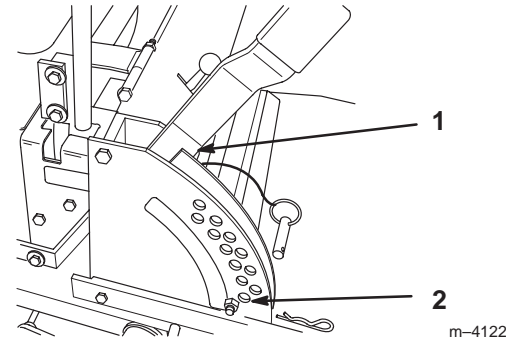
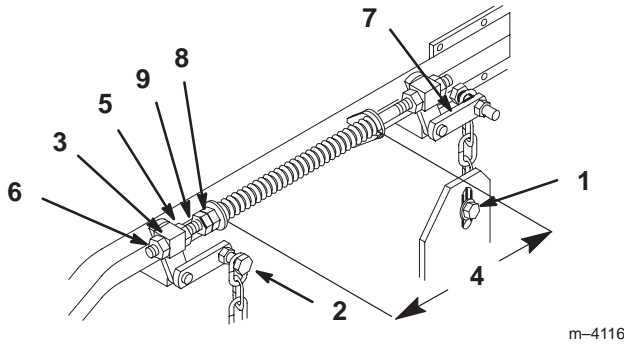

Figure 50
Figure 51
4. Raise the deck to the transport position (Fig. 50). Take force off of the two large deck lift springs by loosening the jam nut and front spring nut, in front of each spring, as far as possible (Fig. 51).
5. Place 2 thick blocks (1-1/4 in. [35 mm]) under the rear left and right lower edge of the mower. Place 1 block (1-3/8 in. [44 mm]) under the front center lower edge of the mower, not under the anti-scalp roller brackets. Lower the mower to the 1-1/2 in. (38 mm) height-of-cut position (Fig. 50).
6. Loosen the bottom chain bolt in the slot at the rear of the deck. Repeat for the opposite side (Fig. 51).
7. Loosen the front and rear locking nut on either side of the front swivel. Loosen until the front chains are loose and the deck is supported by blocks. Repeat for the opposite side. (Fig. 51).
8. When the hardware is loosened, the remaining tension in the large support springs will tend to rotate the deck lift handle up, out of the 1-1/2 in. (38 mm) position. Press down on the rear deck support arm to firmly return the deck lift handle to the 1-1/2 in. (38 mm) position (Fig. 51).
9. While continuing to press down on the rear deck support arm, take the slack out of the rear chain and tighten the hardware at the bottom (Fig. 51). Downward pressure may now be released. Repeat for the opposite side.
- Raise the deck lift lever to the transport position (Fig. 50).
- Adjust the compression springs by turning the front spring nuts so that the distance between the two large washers is 10-1/4 in. (260 mm); then tighten the jam nut (Fig. 51).